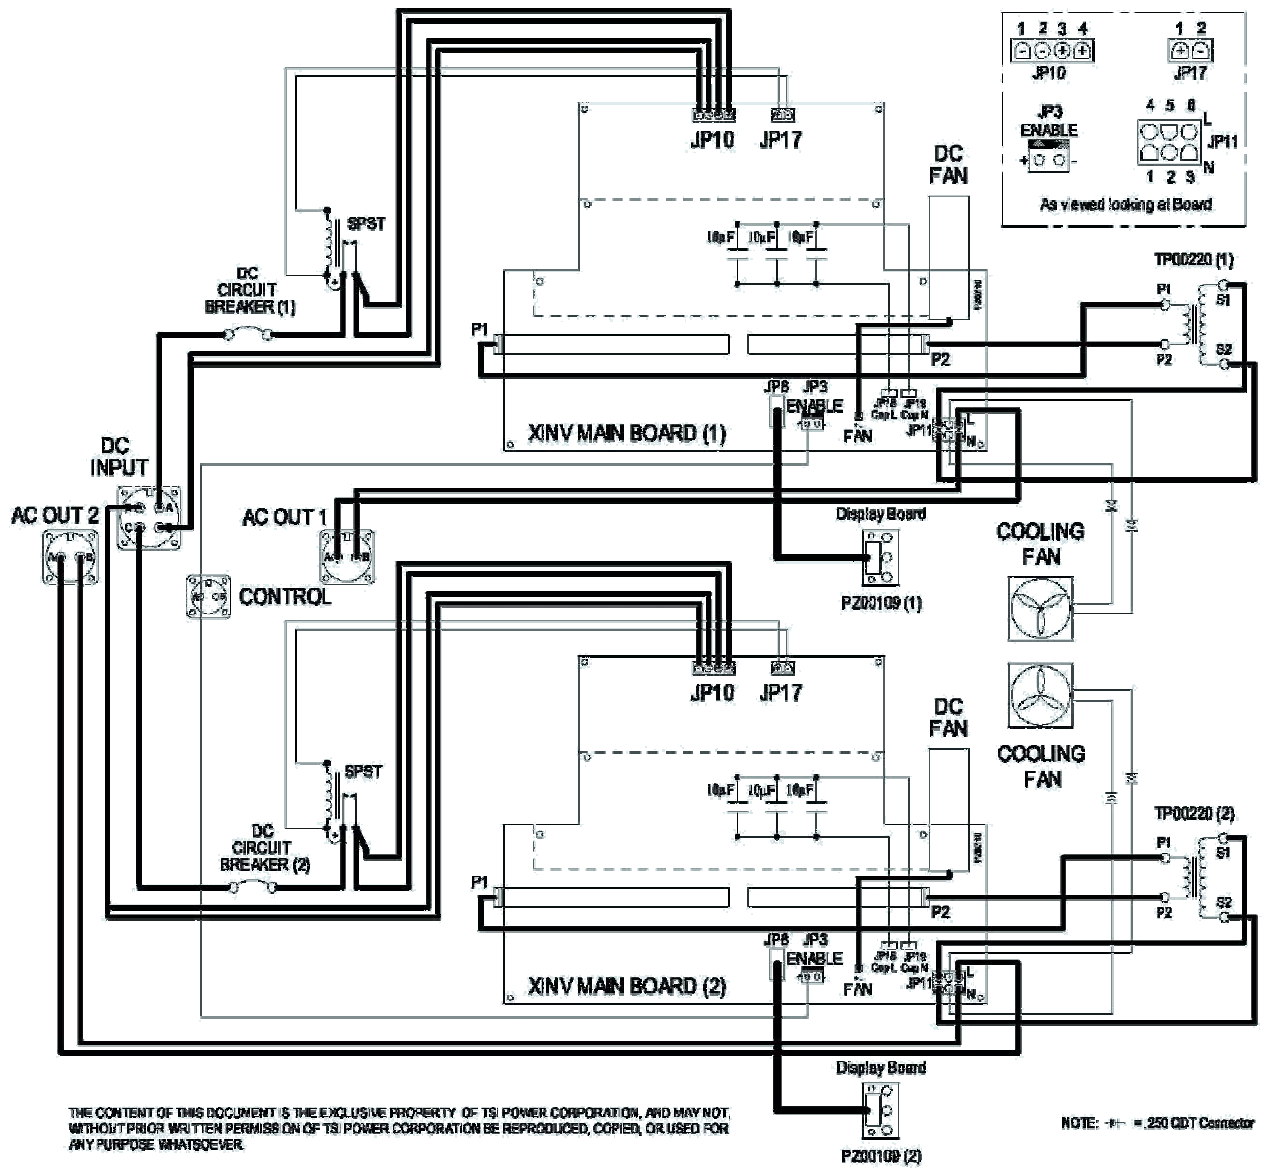

Figure 6: XINV-4000-NRE Wiring Diagram
2.1 XINV-4000-NRE WIRING DIAGRAM – See Figure 6.
- With the Power Module partially pulled out, and making sure no wires are pinched, disconnect the following from the circuit board, see Figures 6 and 15: